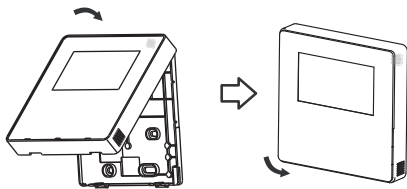

Fig 3-11
- Avoid accidental clamping of the wiring when reattaching the front face of the controller. (Fig 3-11)